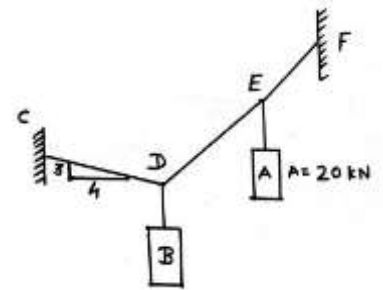

Figure 3
- Q.2 (a) For system shown in Figure 3, if a cylinder A weight 20KN. Find weight of B and force on each chord so that the system remain in equilibrium. [06]